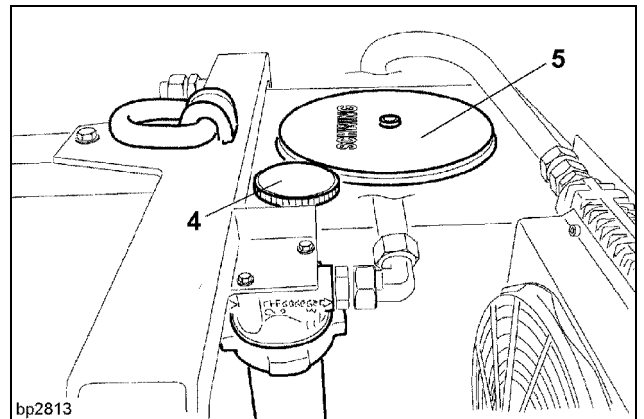

Fig. 5
- Clean the area around the cleaning cover (5) and remove cleaning cover 5 (Fig. 5).